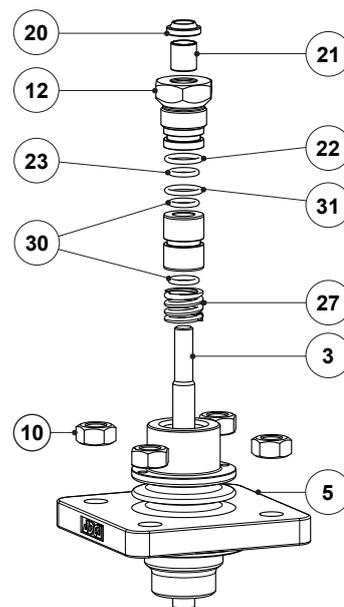

Fig. 10 - EPDM (EP1)
8. Insert the spring (27) into the packing box and carefully slide in the O-ring guide (29) according to Fig. 10.
9. Renew the scraper ring (20), plain bearing (21), and O-rings (22, 23) if necessary. Fit the O-rings (22, 23) and the plain bearing (21), screwing it loosely.